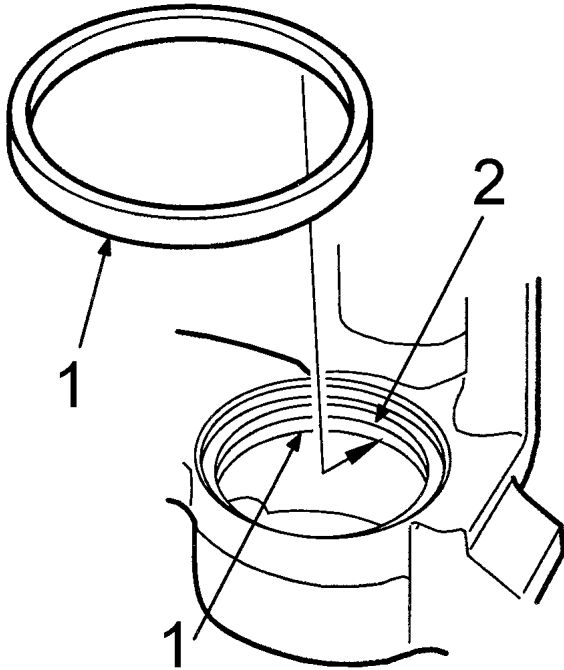

Figure 51 Install Caliper Piston Seal into Caliper Piston Bore Groove
1. Use new piston seals (Item 1, Figure 51). Dip piston seals in clean hydraulic brake fluid and install in piston seal groove (Item 2, Figure 51) of caliper piston bore. With piston seal positioned in groove, gently work around groove with clean fingers until seal is properly seated into groove. Be sure seal is not twisted or rolled. NEVER USE OLD PISTON SEALS.